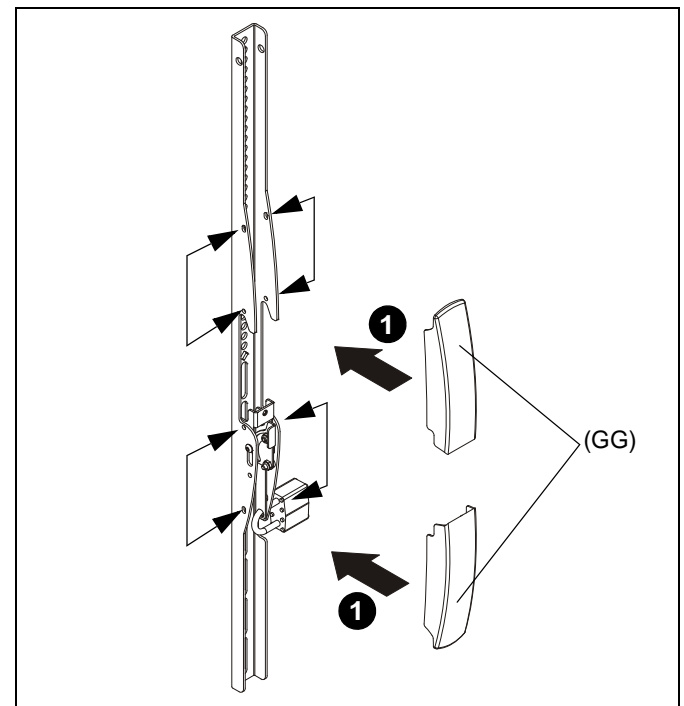

Figure 13
- Install four interface bracket covers (GG) over the top and bottom of both interface brackets. (See Figure 13)
NOTE: Be sure to line up tabs inside the bracket covers with holes on sides of interface brackets. (See Figure 13)